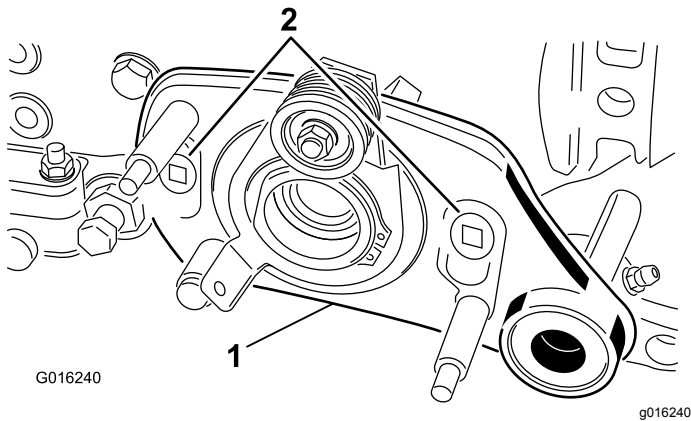

Figure 36
8. Remove the 2 shoulder bolts securing the groomer drive assembly to the side plate adapters (Figure 36).